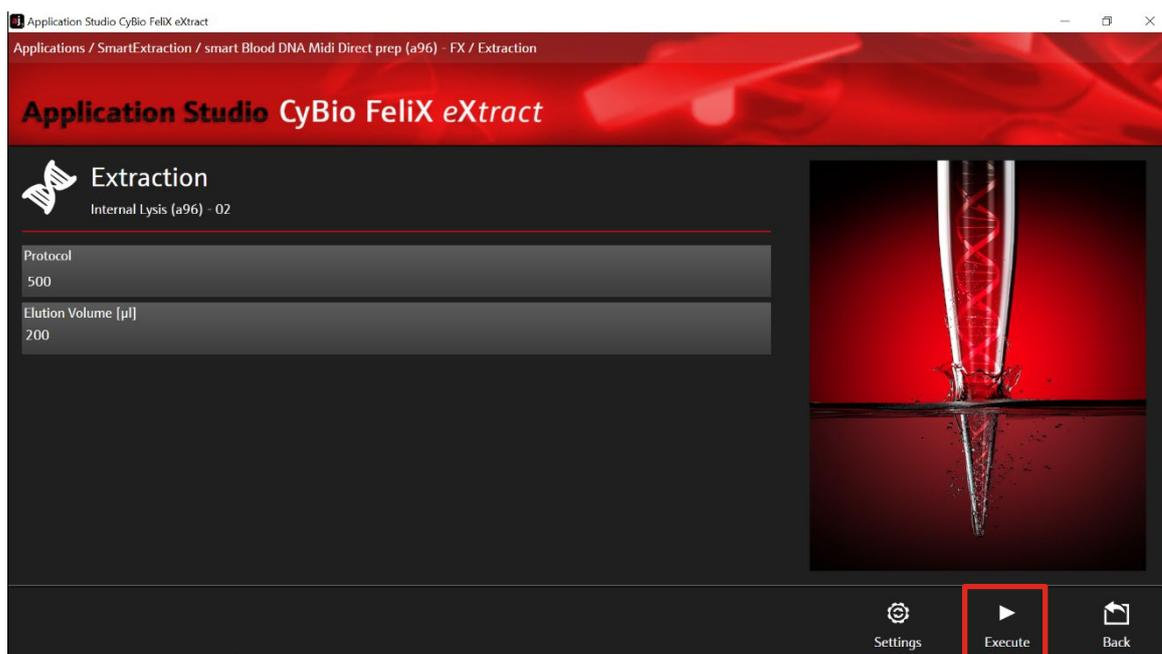

Figure 17: Selection of sample volume (500 μL) and elution volume (variable).
6. After selecting “Extraction” the Extraction Start Screen appears (→ see Figure 17).
8. Select the protocol by choosing the corresponding sample volume (500 μL) sample volume and adjust the "Elution Volume" between 150 – 500 μL using the text field (\rightarrow see Figure 17). Start the protocol by clicking the button "Execute".